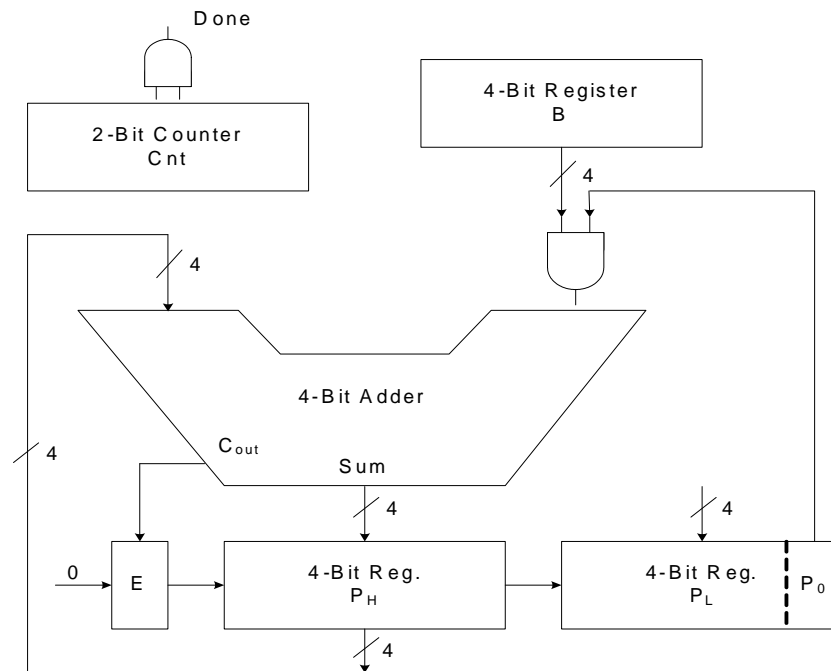

Figure 12.3: Multiplier Data Path.
The data path for the sequential multiplier is shown in Figure 12.3. It consists of several registers and an adder. The required registers include:
3. Construct a design similar to Figure 12.3 constraining the inputs of the *multiplier* (A) to be at decimal value “10”, and constraining the inputs of the *multipliland* (B) to be at decimal value “6”.